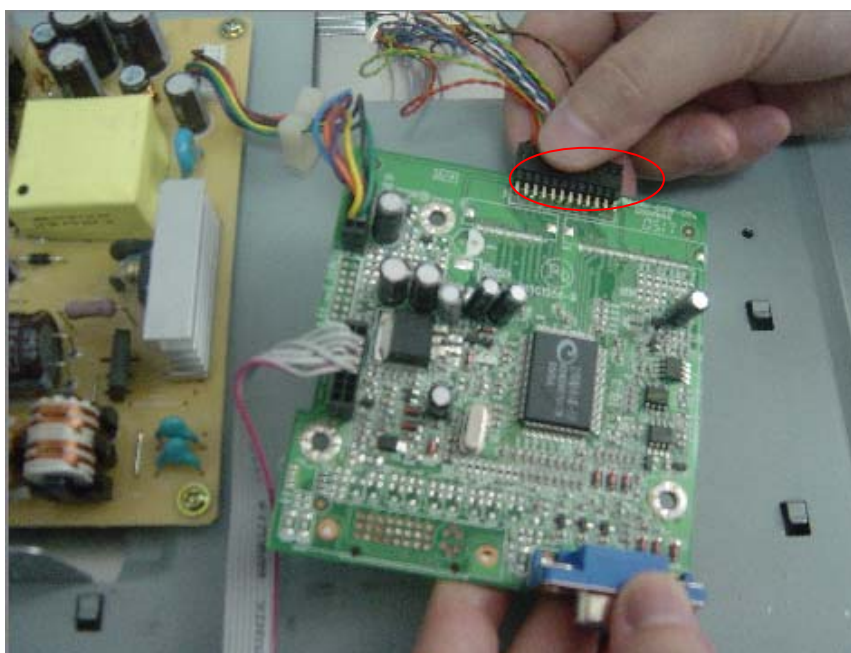

Fig 7
2. Remove connector wire with main board and panel. (Fig 7)